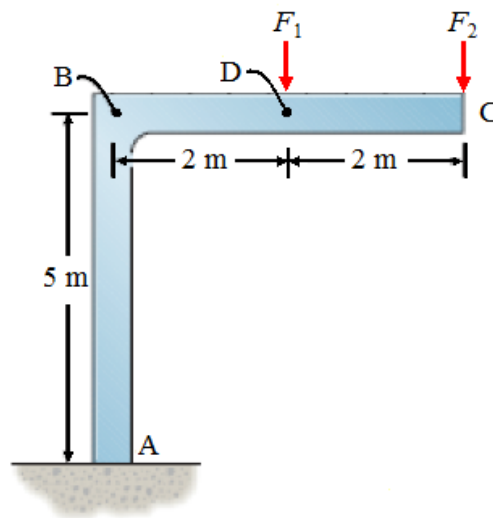

Figure 1
1. The frame shown in Figure 1 is made of two segments: segment AB of length 5 m and BC of length 4 m. The flexural stiffness $EI = 10^5 \text{ Nm}^2$ is constant for both segments. If the frame is subjected to point load $F_1 = 100 \text{ N}$ and $F_2 = 100 \text{ N}$ as shown, determine the rotation at point C (in rad). Use unit load method. Consider only bending effects.